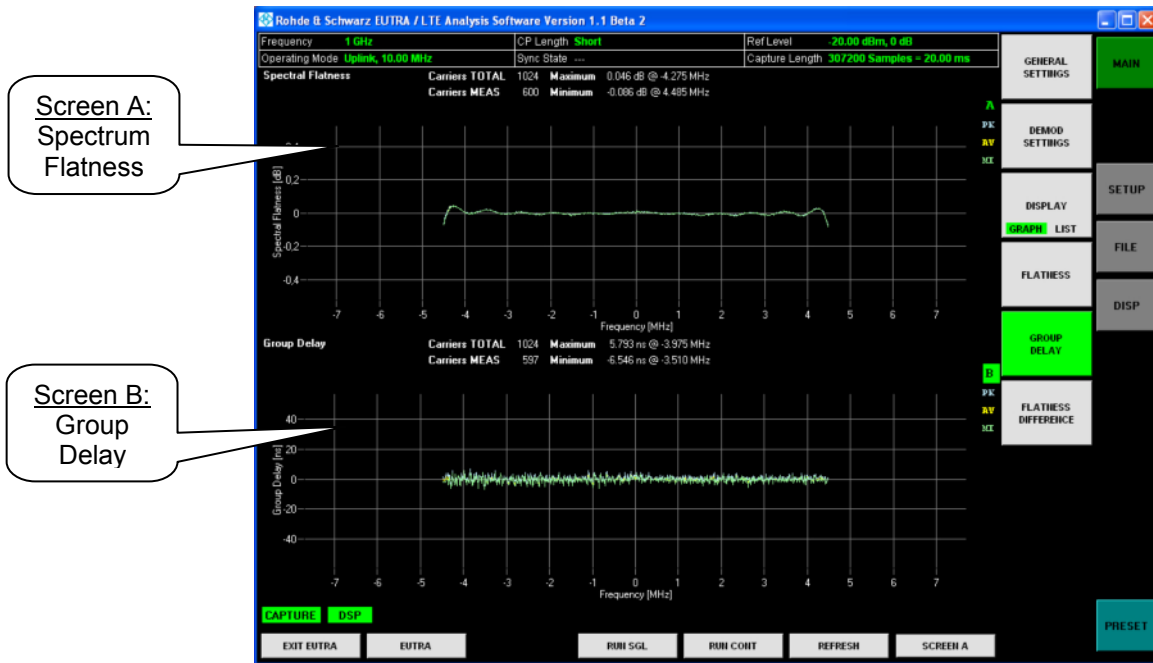

Figure 5-13 Analyzing EUTRA/LTE UL signals – Spectrum Flatness & Group Delay
5. Spectrum: Flatness (Figure 5-13: Screen A)
6. Spectrum: Group Delay (Figure 5-13: Screen B)